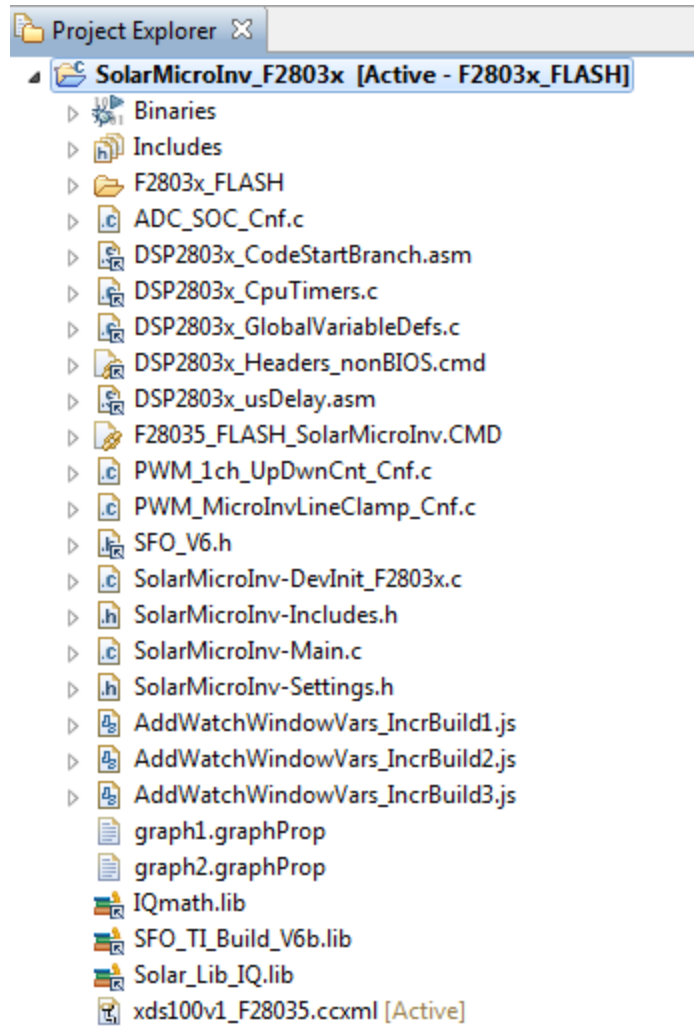

Figure 23 PV inverter project in C/C++ tab
11. Figure 23 shows the project in the CCS C/C++ Project tab, it shows all the key files used in the project.